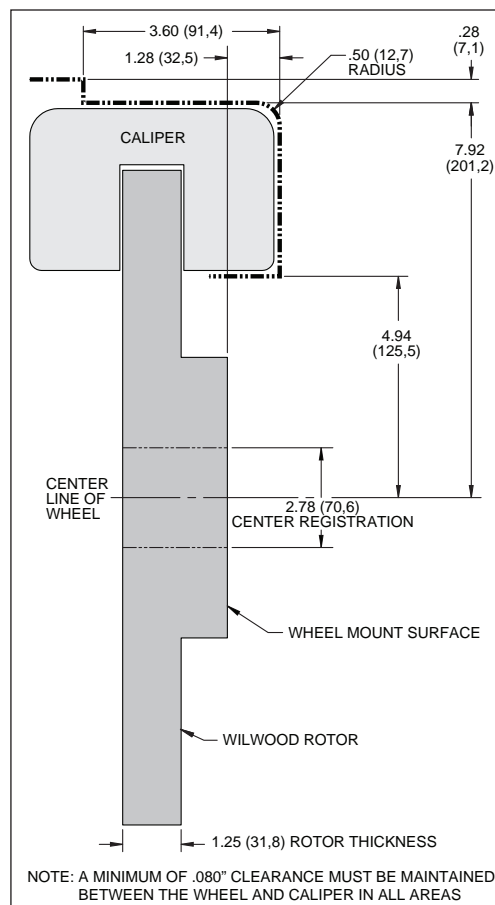

Figure 2. Wheel Clearance Diagram
- Review the wheel clearance diagram (figure 2, page 3) to verify that there is adequate clearance with the wheels you will be using with the installation.
•Make sure this is the correct kit to fit the exact make and model year of your axle. This kit is designed for direct bolt-on installation to 2005 through 2013 model year Chevrolet C6 Corvette hubs. Speciality aftermarket wheels or spacer may be required. Check wheel clearance diagram, Figure 2.
•Verify your wheel clearance using Figure 2.